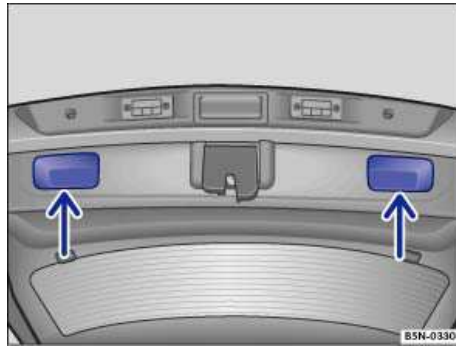

Fig. 35 Opened rear hatch: Recessed grips for closing.
- Grasp one of the recessed grips in the trim of the rear hatch ⇒ fig. 35 (arrows).